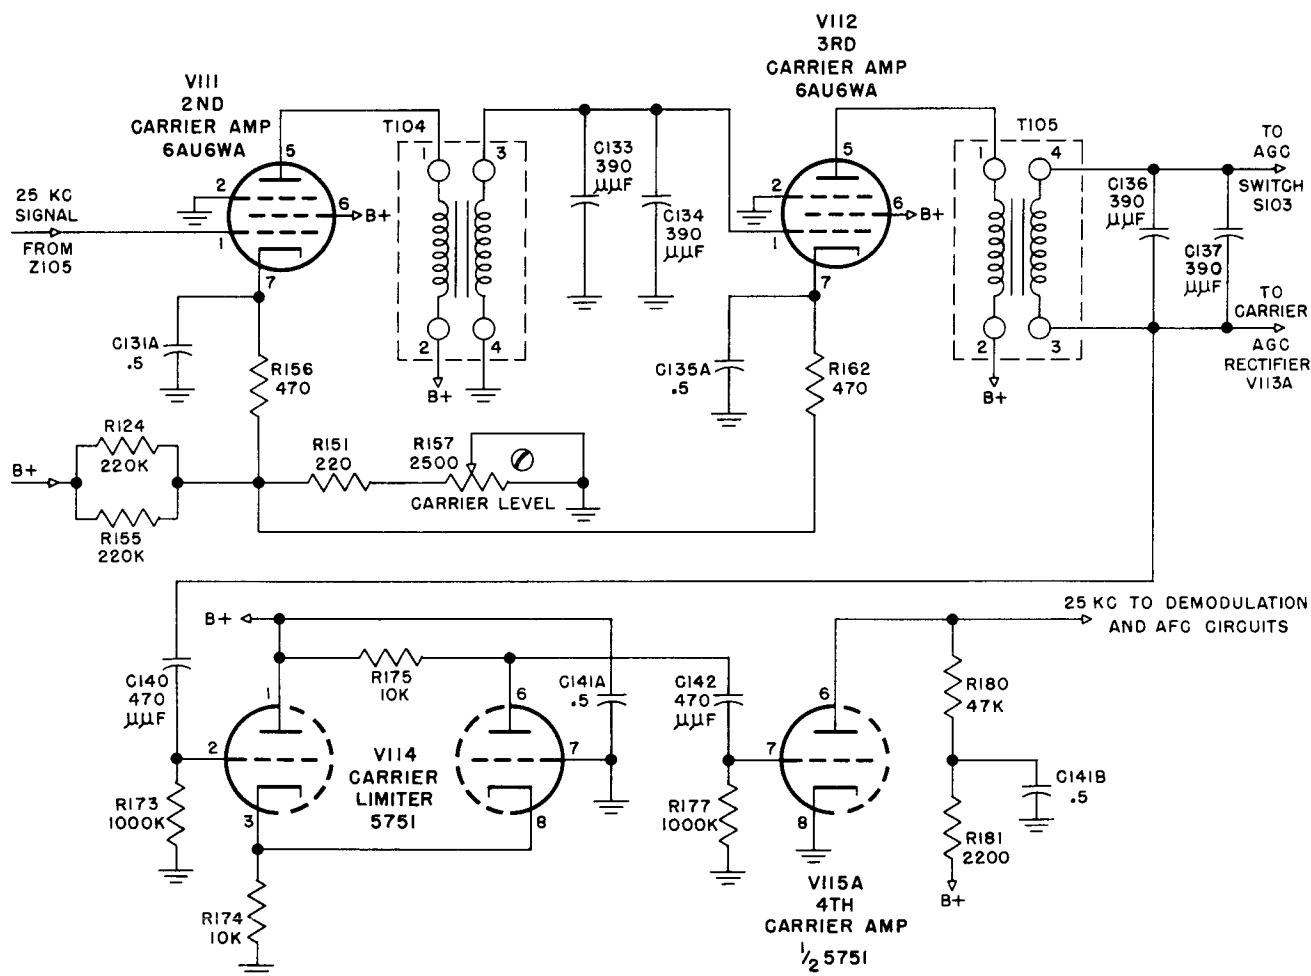

Figure 2-7. Carrier Reconditioning Circuits, Simplified Schematic Diagram
(1) SECOND AND THIRD CARRIER AMPLIFIERS V111 AND V112. (See Figures 2-7 and 7-7.)—The output of filter Z105 feeds the 25-kilocycle signal through two stages of amplification, V111 and V112, two 6AU6WA pentodes. The function of these two stages is to amplify the carrier to a predetermined level. Carrier Level control R157 is placed in the cathode circuit of both amplifiers to adjust the carrier signal to full carrier level. A suppressed carrier, having any degree of suppression from a full carrier to 30 db below that of a full carrier, may be boosted to full carrier level. For suppressed carriers, the Carrier Level control is advanced until the carrier level meter M101 reads the desired value.